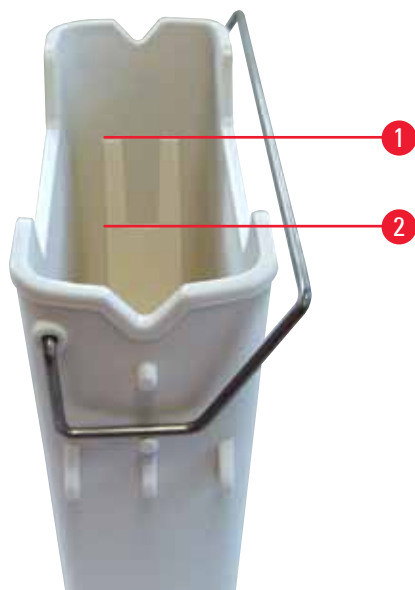
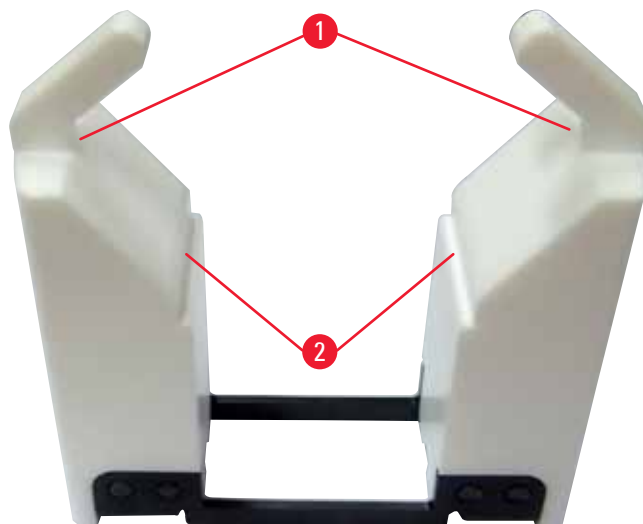

Fig. 66
Fig. 67
Check whether the reagent vessel handle is correctly attached to the reagent vessel. If this is not the case, fasten the handle according to (→ "Fig. 66").
- When filling either reagent vessel type, observe the fill level marks inside the reagent vessels (→ "Fig. 66") (→ "Fig. 67").
- If inserts for special dyes (→ "Fig. 67") are used in the reagent vessels in order to reduce reagent volume, insert these into the reagent vessel first and then fill the reagent at least up to the minimum filling level indicated (→ "Fig. 67-2"), but not over the maximum filling level (→ "Fig. 67-1").